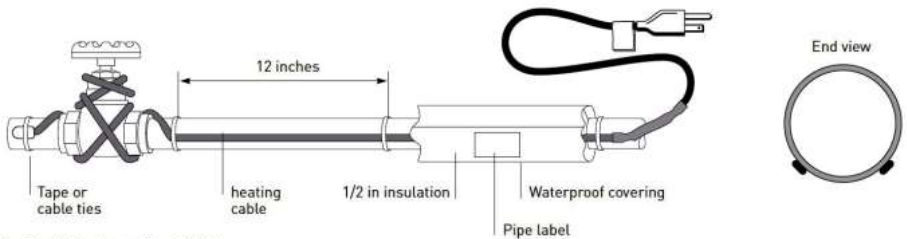
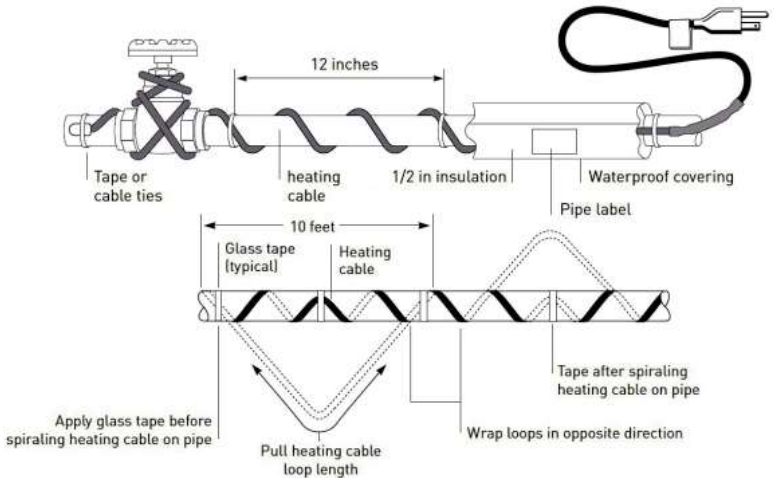

Figure 1. Straight-traced installation
Figure 2. Spiral-traced installation
- Install heating cable, using straight tracing Figure 1, or spiraling Figure 2.
- For straight tracing, install the heating cable on a lower half of the pipe; for example, in the 4 o'clock or 8 o'clock position(Figure 1 End view).
- Be sure to install the additional heating cable required for valves, flanges, etc. as shown in Figures 1 and 2.
- Heating cables can be installed in a cross overlapping manner in areas with lower temperatures, such as valves, flanges, etc(Figure 1).
- When the design calls for spiraling, begin by suspending a loop every 10 feet as shown in Figure 2. To determine the loop length, divide the length by your pipe length and multiply by 10. For example, if you are using a 50 ft on a 40-foot pipe, leave a 12-foot loop of heating cable at every 10-foot section of pipe. Grasp the loop in its center and wrap it around the pipe. Even out the distance between spirals by sliding the wraps along the pipe. Use glass tape to secure the center of the loop to the pipe.